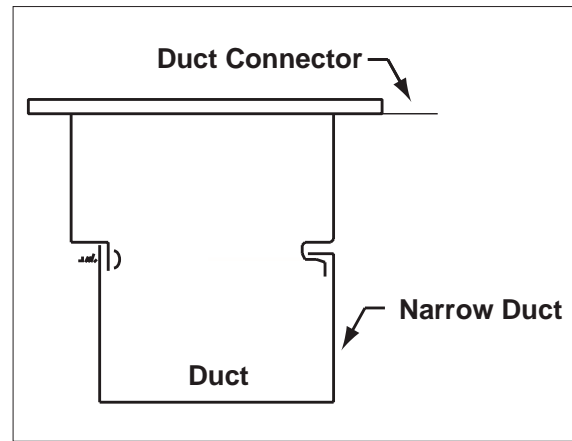

Figure 10. Alternate Plenum Connector Installation B
1. Attach tabs to sides of duct (one on each side) using sheet metal fasteners or other method, ensuring that the plenum is secure and sealed to the duct (see Figure 10).